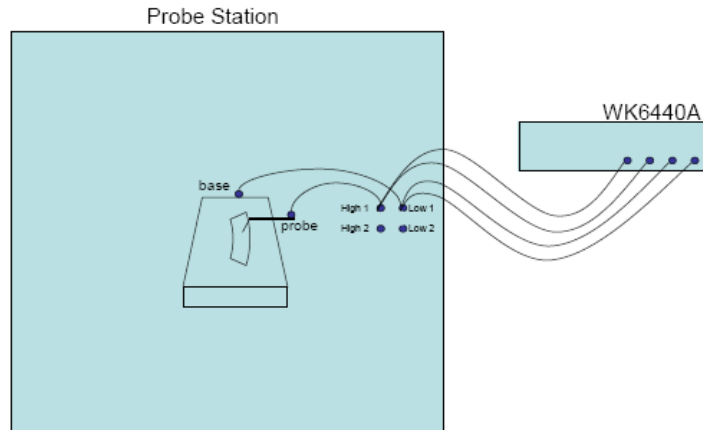

Figure 5: Wiring Diagram for Pitch Adaptor Testing
- 10) The probe station wiring should be as shown on the “PA testing” diagram, shown in Figure 5.